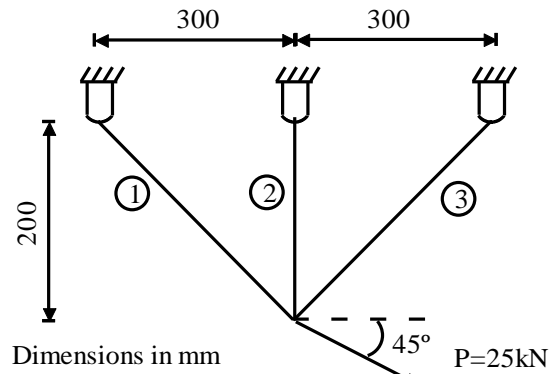

Fig. Q. 4 (a)
4. a) For the truss shown in fig Q. 4 find stress in each member and support Reactions. Take $A = 100 \text{ mm}^2$ and $E = 200 \text{ GPa}$ for all members.